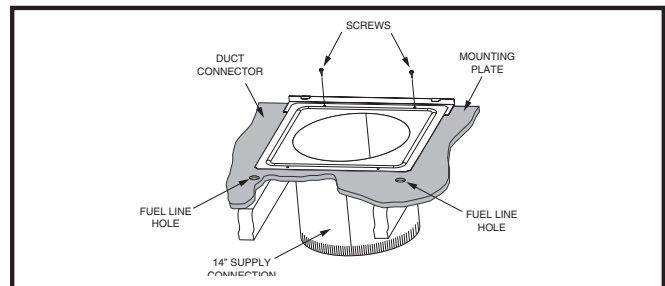

Figure 14. Round Duct Connector Installed
3. Install the mounting plate under the back side of the duct connector. See Figure 14 \(page 8\). **NOTE:** Align the screw holes in both components.